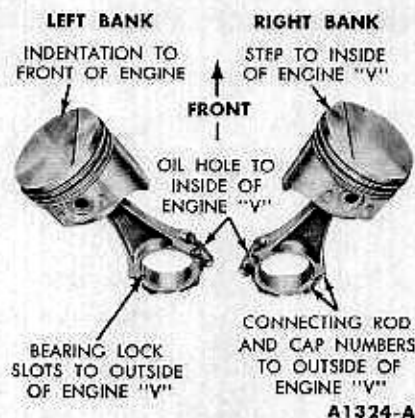

FIG. 26—Piston and Connecting Rod Assembly
1. Apply a light coat of engine oil to all parts. Assemble the piston to the connecting rod so that the step on the piston and the oil squirt holes in the connecting rod will be toward the inside of the engine "V" (Fig. 26). The indentation on the piston is toward the front of the engine. **Pistons are not interchangeable from one cylinder bank to the other.**